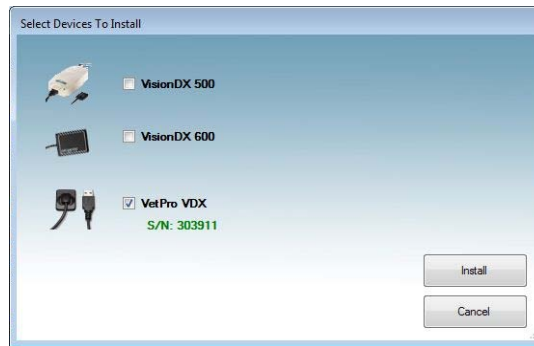

Figure 4: Selecting the device families to be installed
- The screen on Figure 4 will be displayed. Choose “VetPro VDX” and all other device families that have to be supported by the Imaging Software.